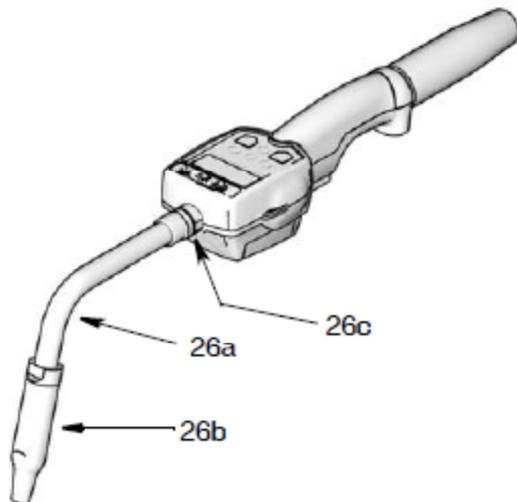

Fig. 6
2. Screw the extension fitting (26c) into the outlet side of the metering system using at least three complete turns. (Fig. 6).